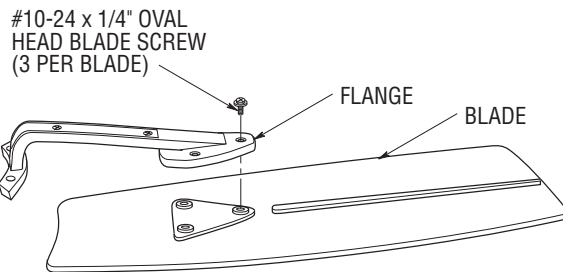

Figure 7
- 11. Mount the blade flanges to fan blades using three #10-24 x 1/4" oval head blade screws per blade (supplied) (Figure 7). Repeat for all blade/flange assemblies.